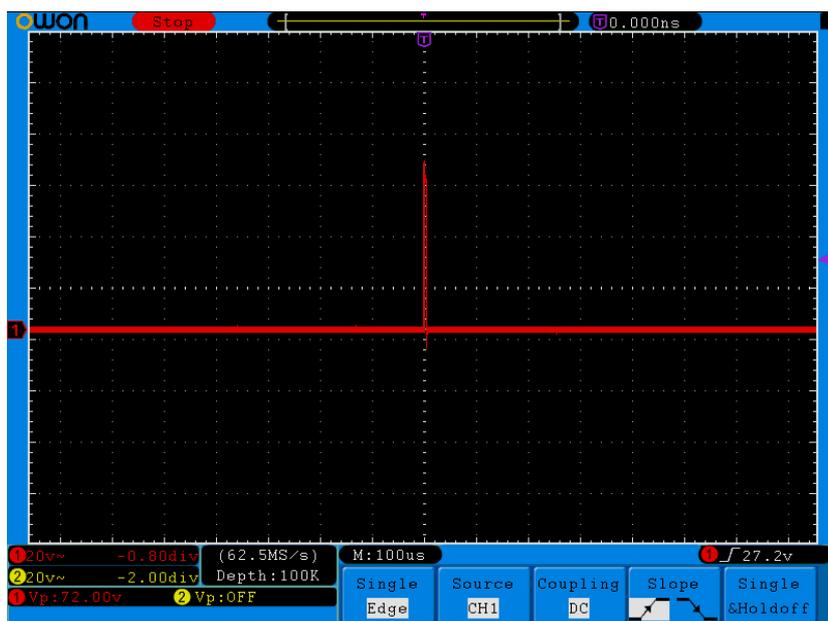

Fig.6-3 Capturing a Single Signal
- (5) Press the **F2** button to choose **Peak detect**.
- (6) Press the **Trigger Menu** button to display the Trigger menu.
- (7) Press the **H1** button to display the Trigger Type menu.
- (8) Press the **F1** to choose **Single** as the type.
- (9) Turn the **M** knob to choose **Edge** as the mode.
- (10) Press the **H2** button to display the **Source** menu.
- (11) Press the **F1** button to choose **CH1** as the source.
- (12) Press the **H3** button to display the Coupling menu; press the F2 button to choose **DC** as the Coupling.
- (13) Press the **H4** button to choose  (rising) as the Slope.
- (14) Rotate the **TRIG LEVEL** knob and adjust the trigger level to the roughly 50% of the signal to be measured.
- (15) Check the Trigger State Indicator on the top of the screen, if it is not Ready, push down the **Run/Stop** button and start acquiring, wait for trigger to happen. If a signal reaches to the set trigger level, one sampling will be made and then displayed in the screen. By using this approach, a random pulse can be captured easily. For instance, if we want to find a burst burr of high amplitude, set the trigger level to a slightly higher value of the average signal level, press the **Run/Stop** button and wait a trigger. Once there is a burr occurring, the instrument will trigger automatically and record the waveform during the period around the trigger time. By turning the **HORIZONTAL POSITION** knob in the horizontal control area in the panel, you can change the horizontal triggering position to obtain the negative delay, making an easy observation of the waveform before the burr occurs (see **Fig.6-3**).